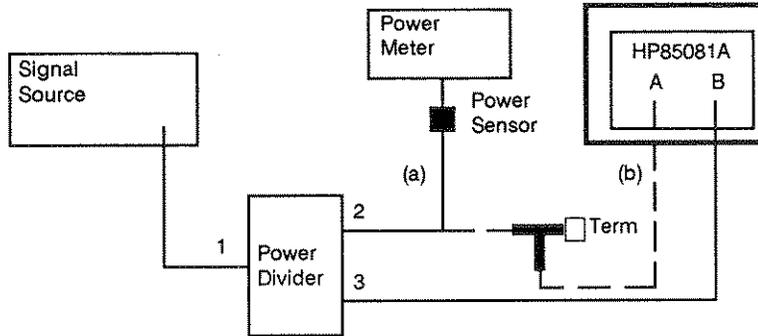

Figure 4-6. Voltage Accuracy Equipment Setup
1. Configure the equipment as shown in Figure 4-6 step (a), with the power meter connected to port 2 of the power splitter and Channel B of the HP 85081A connected to port 3 of the power splitter.
4. Reconfigure the equipment as shown in Figure 4-6 step (b), with Channel A of the HP 85081A connected to port 2 of the power splitter.